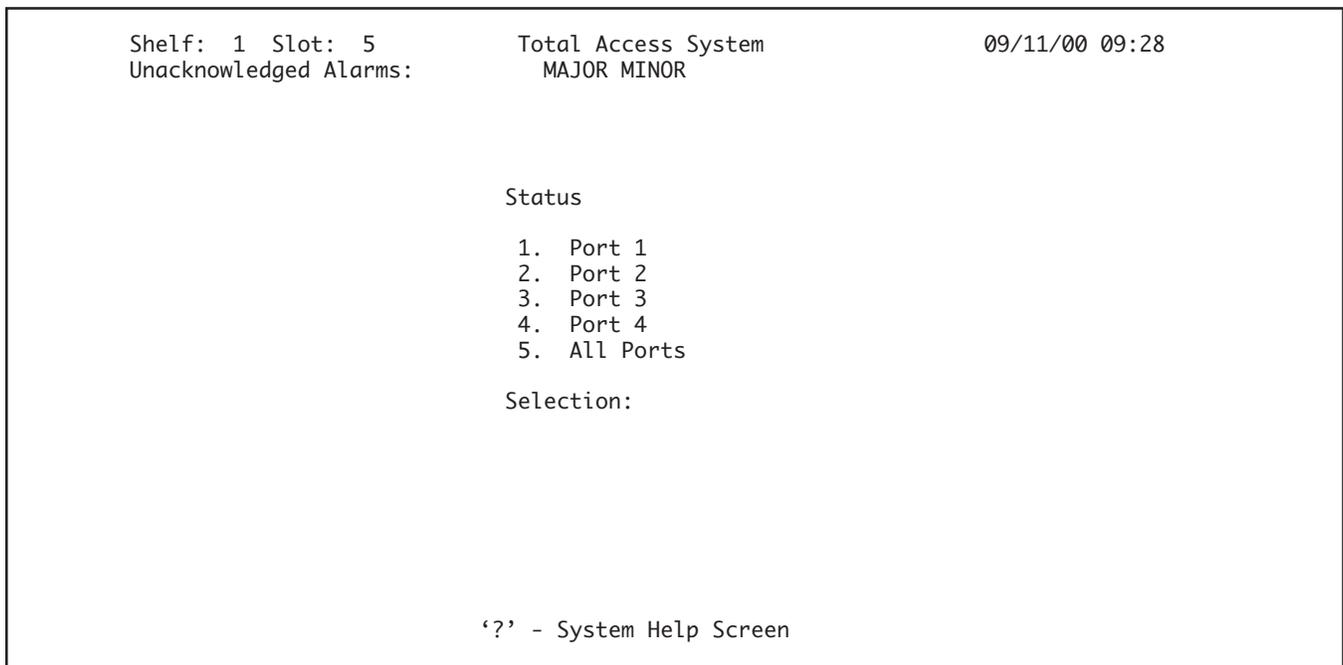

Figure 16. Status Screen
1. From the QFO-C Main Menu Screen, type “3” and press Enter to select Status. The Status screen (**Figure 16**) will appear.